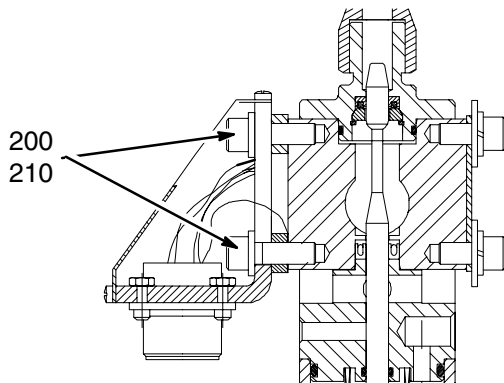

Fig. 14
- b. Remove the two socket head screws [Fig. 14, Item (200)], two washers (210), and carefully separate the receptacle and grounding ring (390) from the dispense valve body. The heater cartridge (270) and sensor (320) will come out of the dispense valve body.
5. Reconnect the dispense valve to the receptacle (Figs. 14):
- a. Reconnect and secure the ring terminal (390) to the socket head screw (200).
- b. Reattach the receptacle base to the dispense valve body and secure it with the two socket head screws [Fig. 14, Items (200) and (210)].